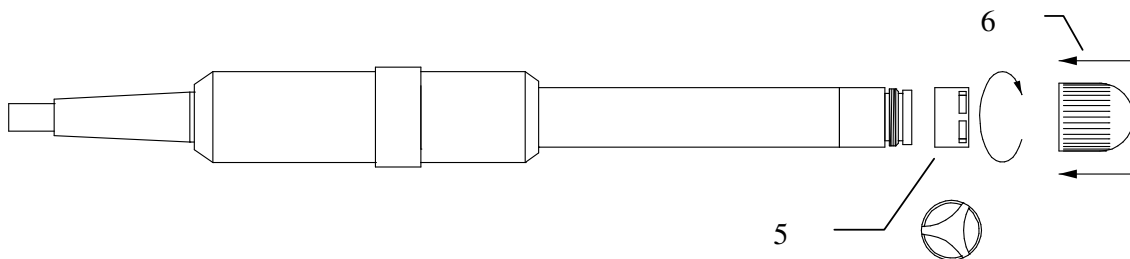

Fig. 1.4. Assembling of weatherproof accessories – step 3.
- Screw SM weatherproof protecting grid (5) to the microphone (see Fig. 1.4).
- Put OK rain cover (6) on the microphone (see Fig. 1.4).